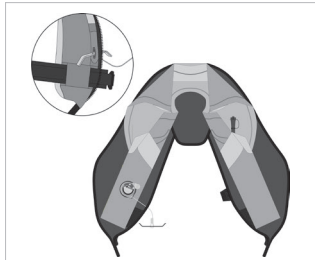

FIGURE 65
12. Thread the manual inflation handle through the stitched buttonhole on the side of the cover (Fig 65).